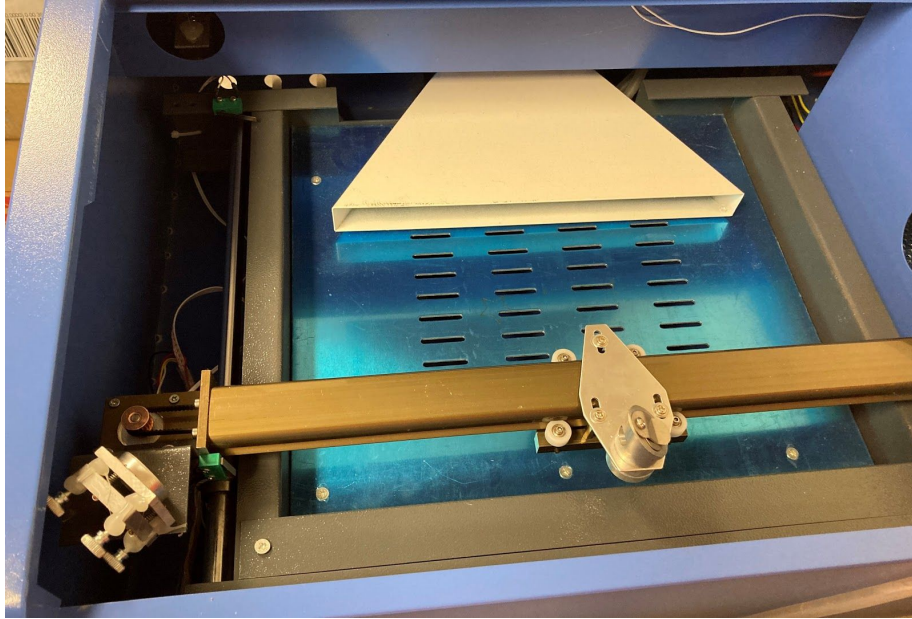

Fig. 4-4 - The Second Mirror in Position B
- a. After aligning the first and second mirrors in Position A, slowly and gently move the X-axis beam to Position B (Figure 4-4) far away from the laser tube.